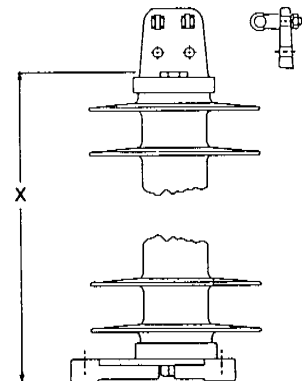

FIGURE 2
- \* Catalog 314XXX Integral NEMA pad line terminal and 10 inch B.C. base for upright and horizontal mounting (see Fig. 2 & 3) (add 3.5 inches and 2 pounds).